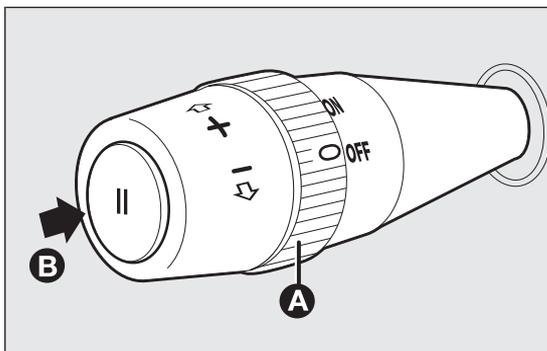

fig. 73
- turn ring nut A fig. 73 to ON and press the accelerator pedal so that the vehicle reaches the desired speed;
- press button B fig. 73.